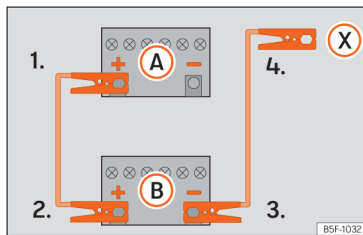
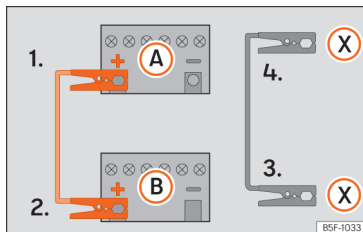

Fig. 209 Diagram of connections for vehicles without Start Stop system
Fig. 210 Diagram of connections for vehicles with Start Stop system
The jump leads should only be connected in the order **1 > 2 > 3 > 4** »» Fig. 210.
4. *Vehicles without a Start-Stop system:* connect one end of the black jump lead to the negative terminal **-** of the vehicle providing the current **B** »» Fig. 209. *Vehicles with a Start-stop system:* connect one end of the black jump lead **X** to a suitable ground terminal, to a solid piece of metal in the engine block, or to the engine block itself »» Fig. 210.